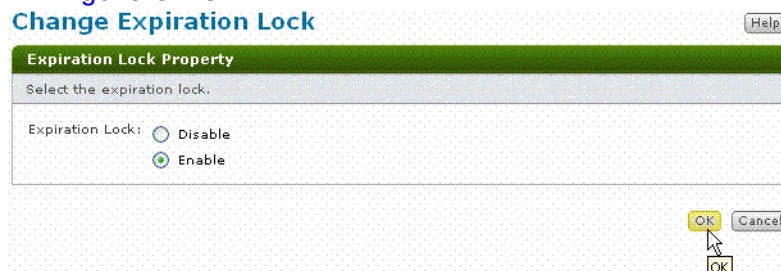

Figure 5-28: Change Expiration Lock window
2. Click **Change Lock**. The Change Expiration Lock screen displays as shown in Figure 5-28.